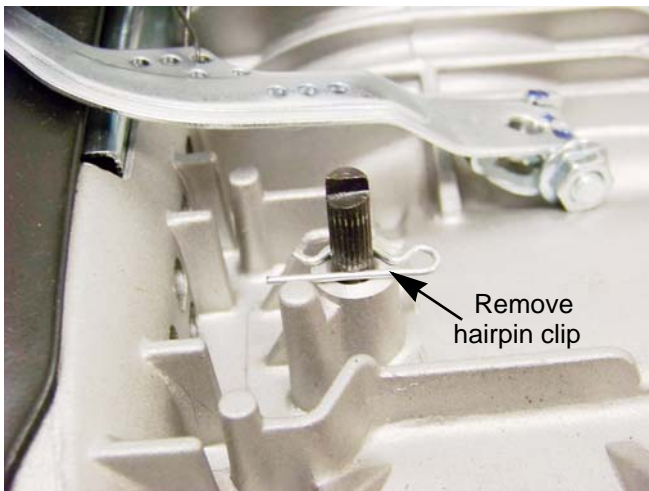

Figure 4.27
5. Remove the hairpin clip from the governor shaft. See Figure 4.27.